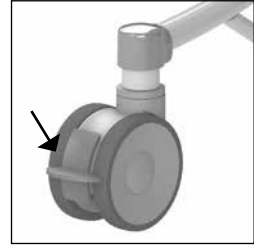

Figure 2 Swivel wheel.
- The brake can be applied on the Elexo XXL by pushing the gray lip on the wheel downwards (See figure 2).